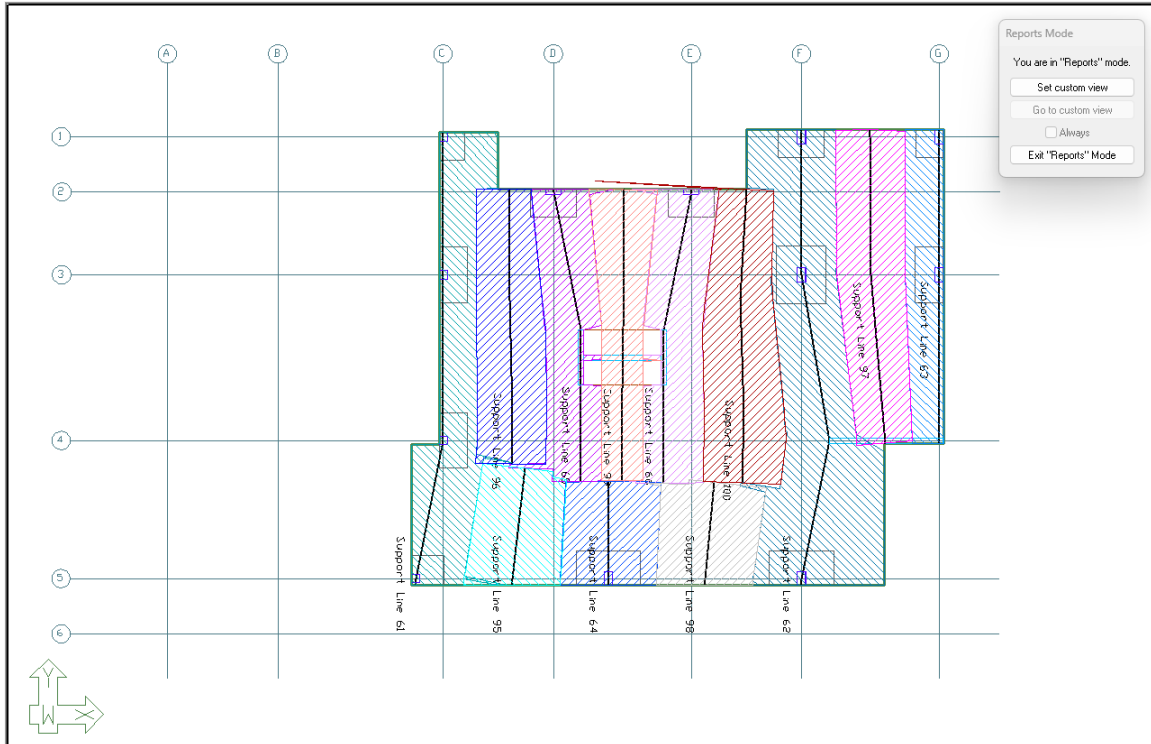

FIGURE 10-16
- Go to **Reports** → **Analysis Reports** → **Design Strips** → **Design Strips Y-Direction**. This will bring up a report view of the design strips for the user to review as shown in **FIGURE 10-16**.